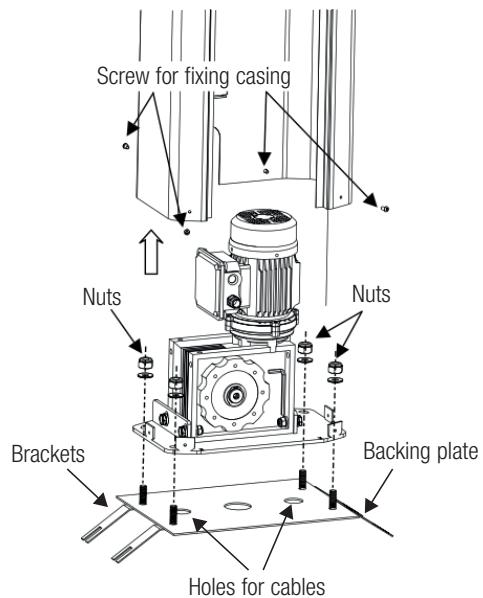

FIG. 5
- Bend the brackets (Fig. 5).
Place the motor on the fixing plate and screw with the M12 nuts supplied (Fig.5).